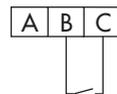

Fig. 15: Electrical connections
3. Connect wires to the terminals as shown in the wiring diagram to the enclosure terminals (see Fig. 15 on page 51).